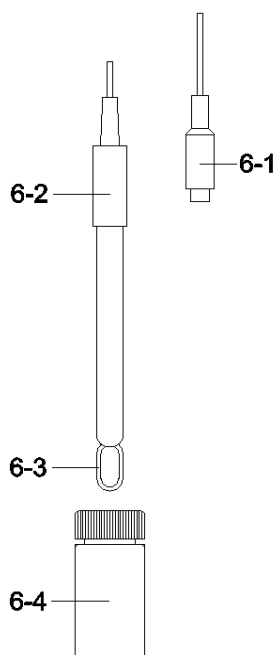

Fig 3
- 1) Prepare the Conductivity Probe (included, CDPB-04), install the " Probe Plug " (6-1, Fig. 3) into the " CD Socket " (3-18, Fig. 1).
- 3) Hold the " Probe Handle " (6-2, Fig. 3) by hand and let the " Sensing head " (6-3, Fig. 3) immersed wholly into the measured solution. Shake the probe to let the probe's internal air bubble drift out from the sensing head. Display will show the conductivity mS (uS) values. at the same time the left bottom display will show the Temp. value of the measured solution.
When not use the Probe, it should immerse the " CD probe sensing head " (6-3, Fig. 3) into the " Protection bottle " (6-4, Fig. 3)
- 2) Install the " Probe Plug " (6-1, Fig. 3) into the " CD Socket " (3-18, Fig. 1).
- 4) Hold the " Probe Handle " (6-2, Fig. 3) by hand and let the " Sensing head " (6-3, Fig. 3) immersed wholly into the measured solution. Shake the probe to let the probe's internal air bubble drift out from the sensing head. Display will show the conductivity mS (uS) values.